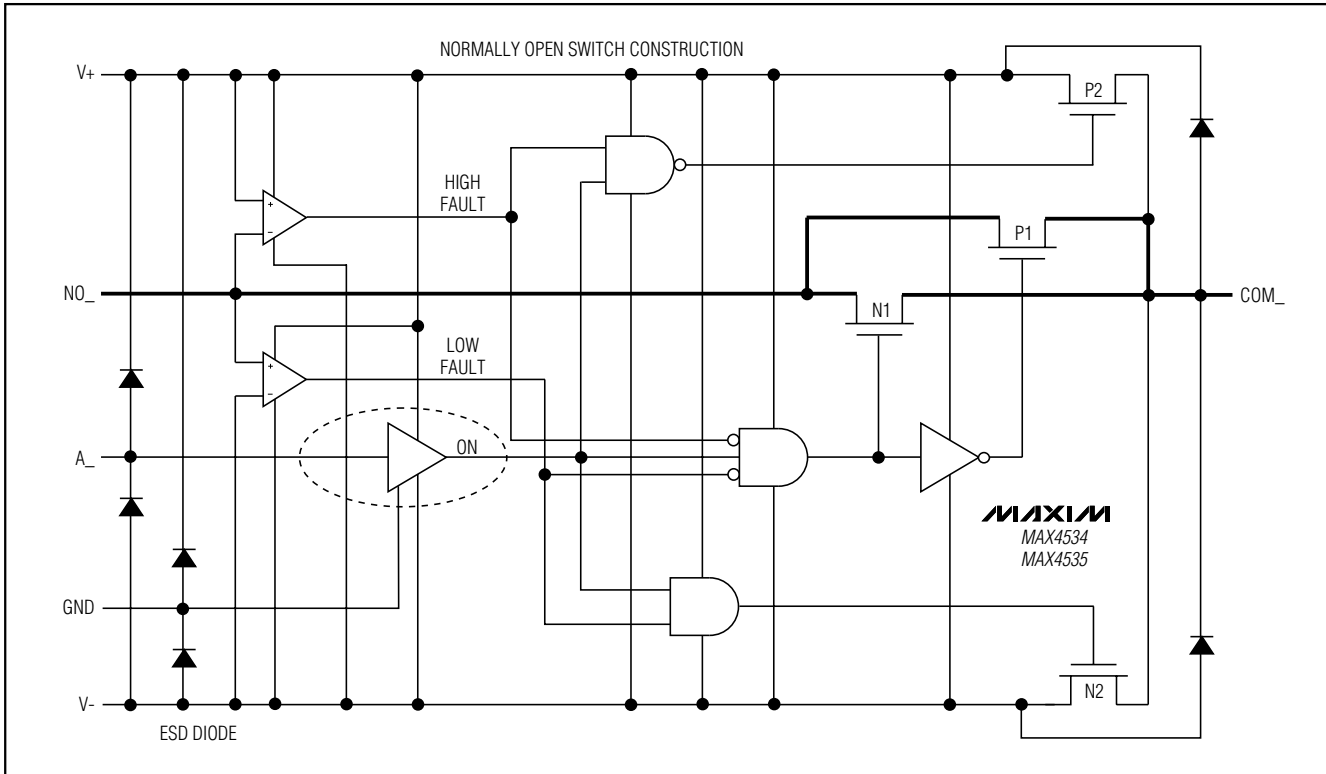

Figure 1. Functional Diagram
Figure 1 shows the internal construction, with the analog signal paths shown in bold. A single, normally open (NO) switch is shown. The analog switch is formed by the parallel combination of N-channel FET N1 and P-channel FET P1, which are driven on and off simultaneously, according to the input fault condition and the logic level state.
off in response to A- signals (Figure 1). The parallel combination of N1 and P1 forms a low-value resistor between NO- and COM- so that signals pass equally well in either direction.
When the signal on NO- exceeds V+ by about 150mV, the positive fault comparator output goes high, turning off FETs N1 and P1 (Figure 1). This makes the NO- pin high impedance regardless of the switch state. If the switch state is "off," all FETs turn off, and both NO- and COM- are high impedance. If the switch state is "on," FET P2 turns on, clamping COM- to V+.
When the signal on NO- goes about 150mV below V-, the negative fault comparator output goes high, turning off FETs N1 and P1 (Figure 1). This makes the NO pin high impedance regardless of the switch state. If the switch state is "off," all FETs turn off, and both NO- and COM- are high impedance. If the switch state is "on," FET N2 turns on, clamping COM- to V-.
FETs N2 and P2 can source about ±10mA from V+ or V- to the COM1 pin in the fault condition (Figure 1). Ensure that if the COM1 pin is connected to a low-impedance load, the 30mA absolute maximum current rating is never exceeded, both in normal and fault conditions.